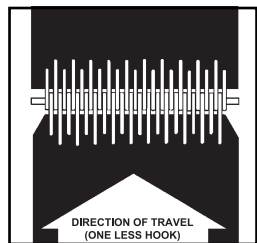

FIG. 5
- Always install one more hook on the leading end of belt than on trailing end (Figure 5).
- Chamfer (notch) trailing edge (Figure 5).